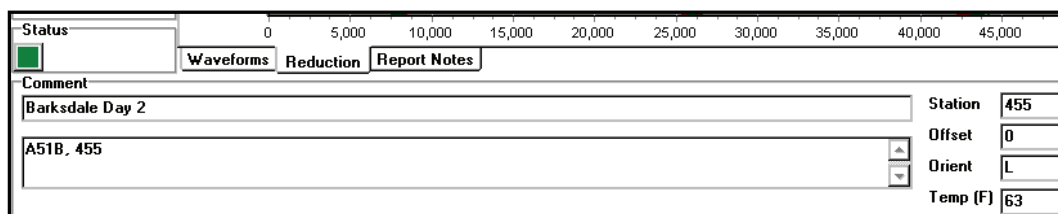

Figure 8. Comment box.
- The Comment box (Figure 8) on the bottom of the laptop computer screen displays the project and site names and allows the user to type in any notes before or during testing. The notes will automatically be saved.